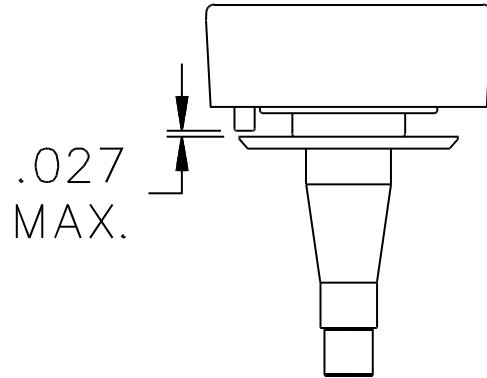

Figure 7 - ABS Sensor and Tone Ring Gap
8. Check physical gap between the sensor and tone ring (**Figure 7**). The brake drum must be removed to inspect gap. The maximum allowable gap is .027 inch. If the gap is greater than .027 inch, press on the wire lead end of the sensor and push the sensor into contact with the tone ring. Check that the ABS spring retainer and bushing are not unseated. Re-seat components as needed.